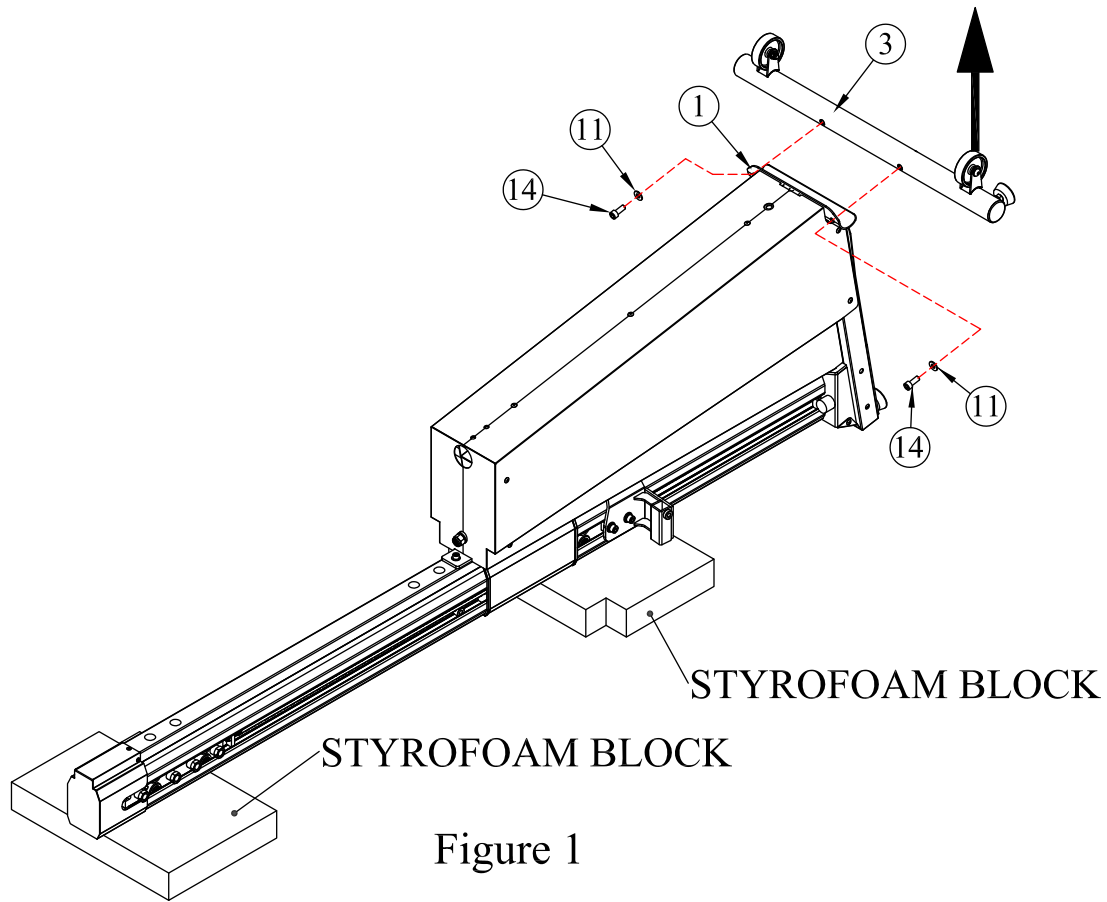

Figure 1
- (A) Take out the Styrofoam block from carton to the floor. Move Climber out from carton and put onto Styrofoam block gently to protect Climber (as Figure 1)
- (B) Assemble rear stabilizer assembly (#3) on base frame assembly (#1) with flat washer (#11) and button head allen bolt (#14). Wheel direction should follow arrow as indicated in Figure 1.